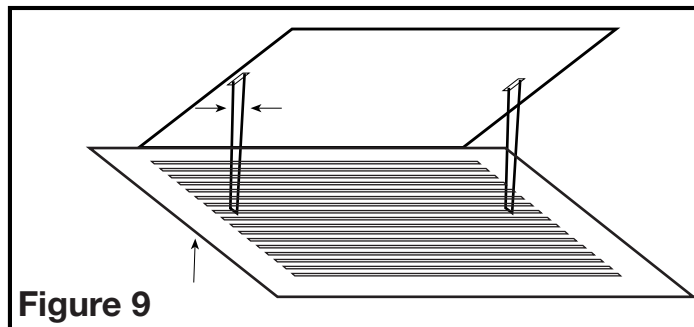

Figure 9
- Install the grill by squeezing the two ends of the springs together and installing them up into the slots on the fan's housing. Push the grill up into position (Figure 9).